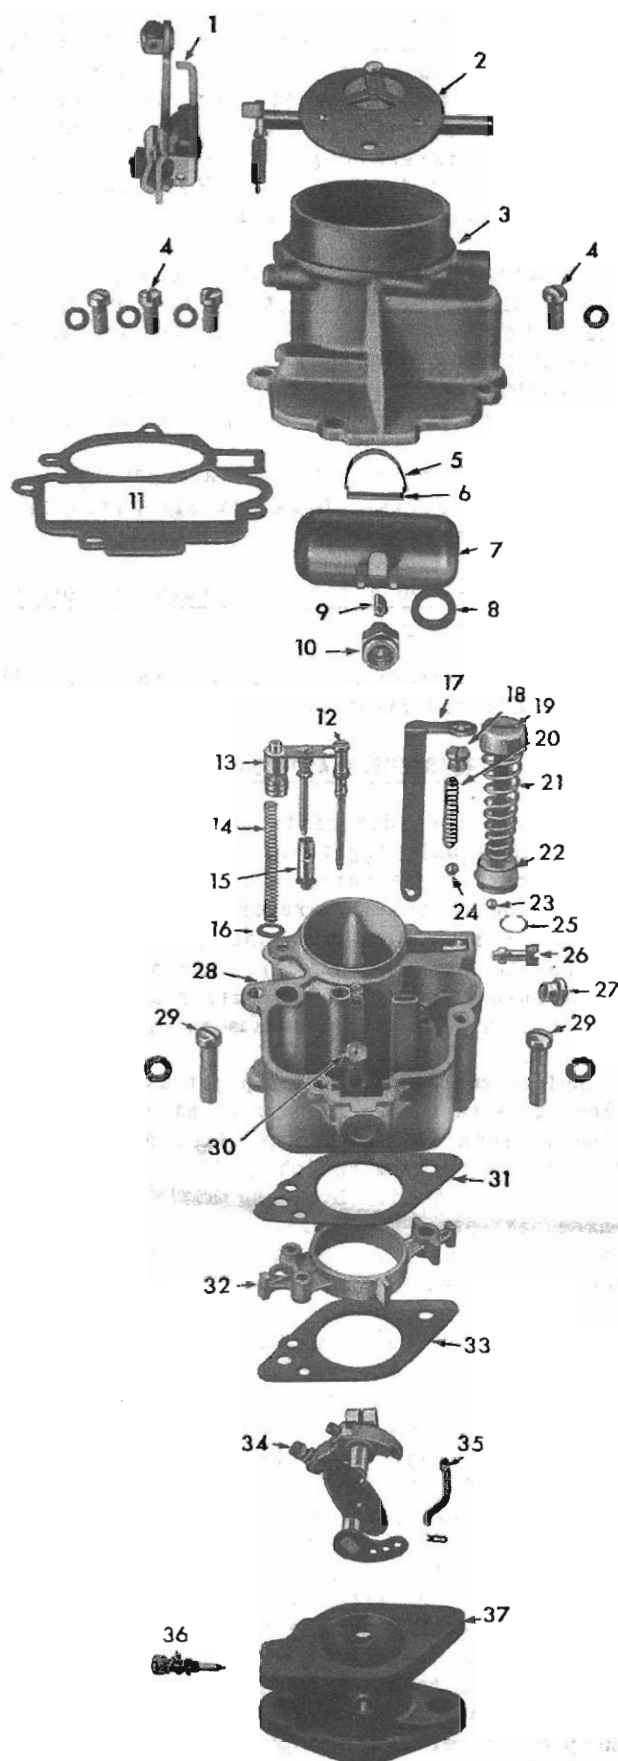

FIG. 7
Remove the air horn and bowl cover assembly (3, Fig. 7) with gasket (11). Remove the float lever pin retainer (5) and lift out the float (7) float lever pin (6). Remove the float needle (9) and needle seat (10). Remove the hairpin clip from the pump operating link (35) and remove the link. Then lift out the pump plunger (22), lifter link (17) and spring (21) as an assembly. Using Retainer Ring Removing Tool J-1306, remove the retainer ring (25) and then the inlet ball check (23).
KEY TO PARTS IN FIG. 7